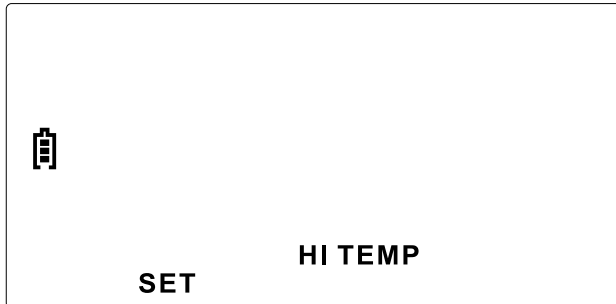

Figure 20: High Temperature Set Screen
2. Press the **+** button until **HI TEMP SET** shows on the TPMS display. See *Figure 20*.